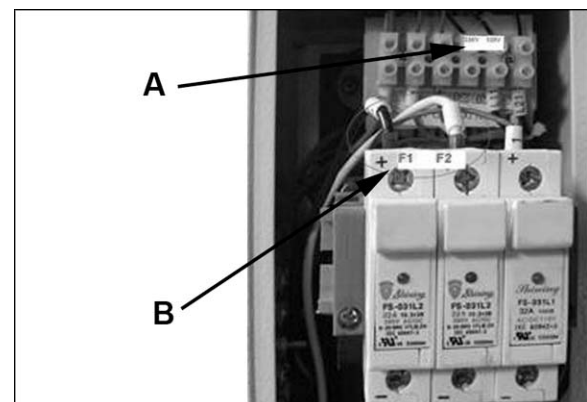

Figure 9-1
2. On the transformer, reconnect the L11 line from the 120V terminal to the 230V terminal (A, Figure 9-1).
3. Replace the 20 amp fuses with 10 amp fuses in the first two fuse holders (B, Figure 9-1).